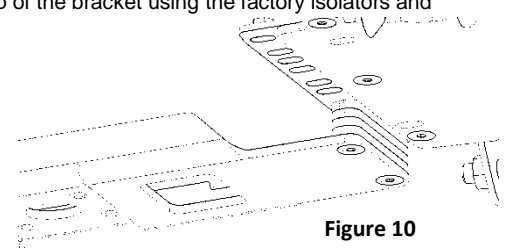
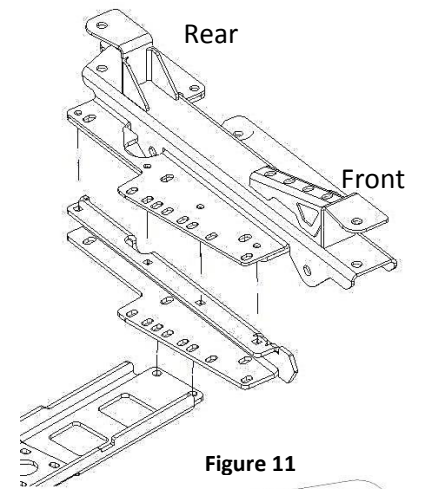

Figure 10
Figure 11
43. Locate the lower control arm mounting bracket, gusset plates, and hardware kit 118 (see figure 11). Assemble the control arm mount gusset plates onto the control arm mounts using four 3/8 x 1 flat head cap screws and flange nuts per side. There is a left and right for each part. Ensure the countersinks match up to the bolts for a flush finished product. Tighten bolts.
45. Attach the crossmember to the transmission mount using the factory nuts (see figure 10). Do not tighten at this time.
46. The belly height in this kit is extremely adjustable. Anything from a flat belly to 3" drop can be achieved using a combination of spacer plates and spacer brackets (see figure 10, 11 and 12). Flat belly configuration will require a body lift or floor pan modification. Many late model transmissions will require a 2" drop bracket (see figure 11). That's still 1.5" higher than stock. Hardware kit 120 contains the longer bolts needed for the drop spacers.